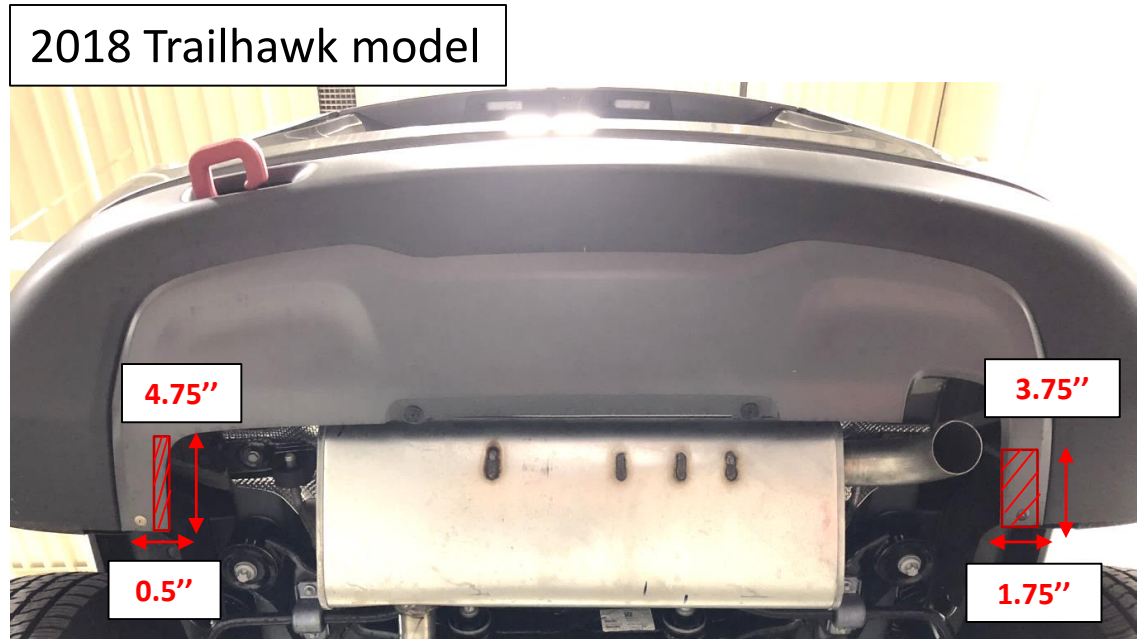

Figure 6
4. **Trim bottom panel (only on 2018 Trailhawk model)** – use die grinder to trim the bottom panel as shown in **Figure 6**.
4. Trim bottom panel (only on 2018 Trailhawk model) – use die grinder to trim the bottom panel as shown in **Figure 6**.